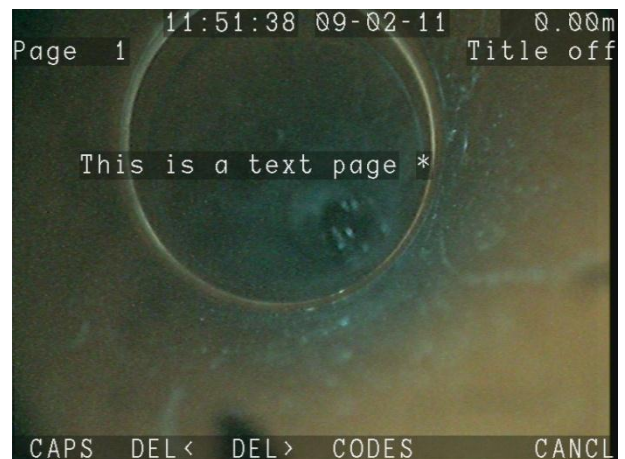

Figure 8.2 Text editing screen
2. You will enter the text editing screen, see Figure 8.2.